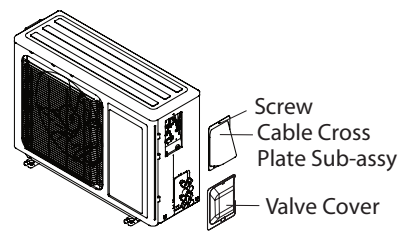

Fig.21
1. Remove the screw on the right cable cross plate sub-assy and valve cover of outdoor unit and then remove the cable cross plate sub-assy and valve cover.(As show in Fig.21)